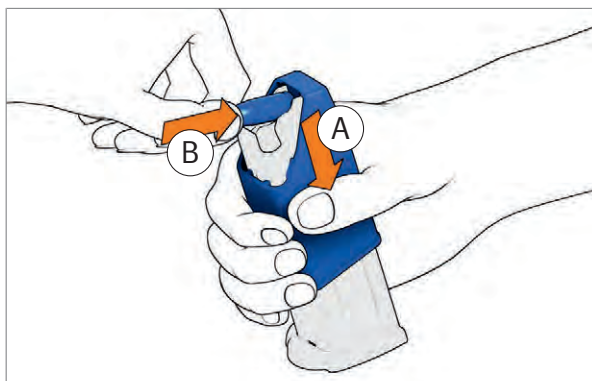

Fig. 42: Pushing cartridge under the magazine lips
2. Press loading aid downwards and hold it (*Fig. 42*).
3. Push cartridge base forwards under the magazine lips (*Fig. 42*).